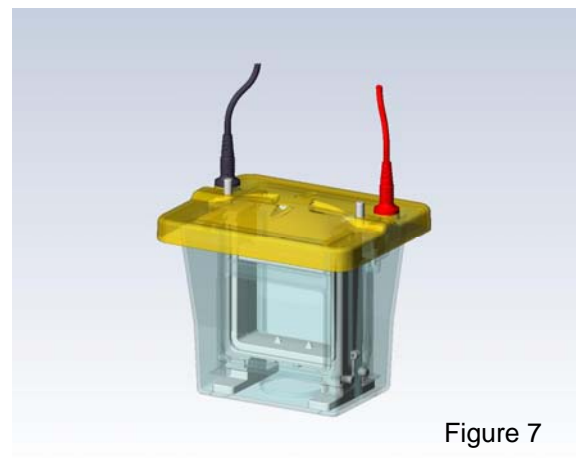

Figure 7
5. Connect the leads to the power supply, matching the color-coded red-to-red and black-to-black. **See Section 5.1 for recommended power conditions.** Begin separation by electrophoresis. Figure 7 shows the closed unit ready for electrophoresis.